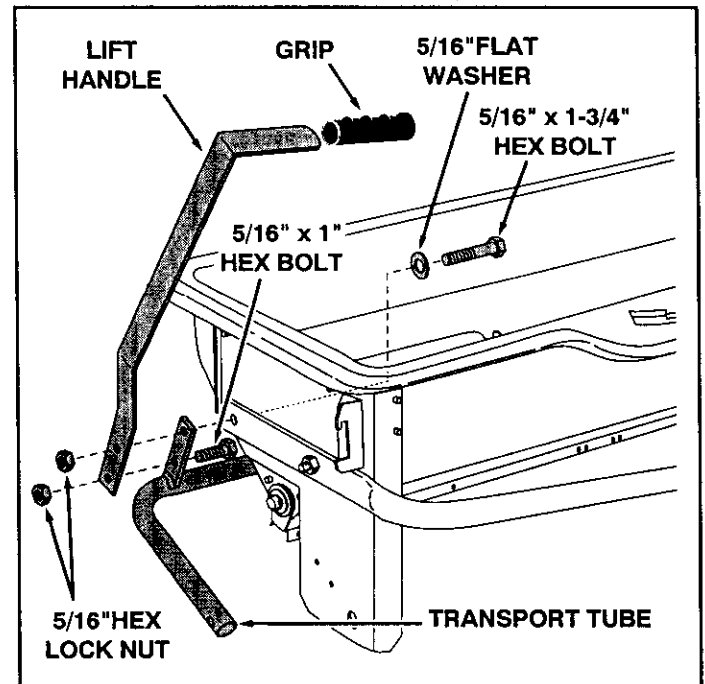

FIGURE 2
- Assemble the grip onto the lift handle. See figure 2.
- On the right side, insert a 5/16" x 1-3/4" hex bolt through a 5/16" flat washer and then through the rear hole in the hopper and the hitch tube. Assemble the transport tube and then the lift handle onto the bolt and secure with a 5/16" hex lock nut. **Do not tighten yet.** See figure 2.
- Assemble a 5/16" x 1" hex bolt and 5/16" hex lock nut to the bottom hole in the transport tube assembly and the lift handle. **Do not tighten yet.** See figure 2.